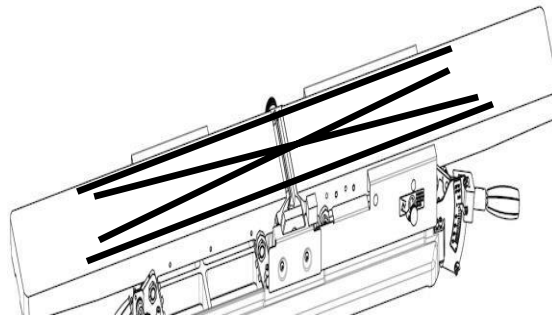

Figure 35: Checking Bed Alignment
**STEP 3:** Place straight edge in positions shown in **FIG. 35**.